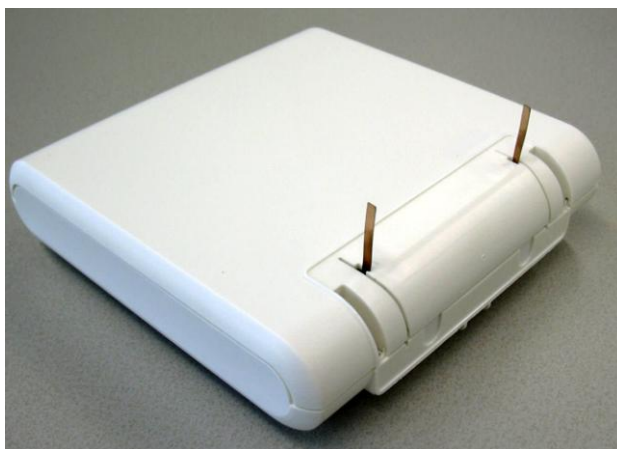

Figure 6. Antennas locked into Cover.
5. After the antennas are put in the vertical position, close the 8340 Smart IP-DECT AP cabinet again. In other words, put the 8340 Smart IP-DECT AP cover back into position and secure the screws at the rear side of the cabinet. See Figure 6. Antennas locked into Cover.